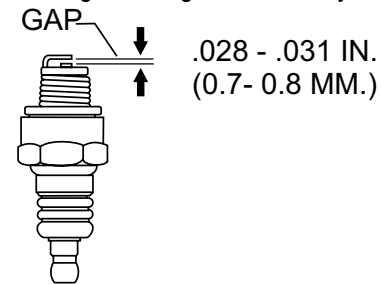

Figure 34. Spark Plug Gap
- Remove and clean spark plug (Figure 34) with a wire brush if it is to be reused. Discard spark plug if the insulator is cracked or chipped.